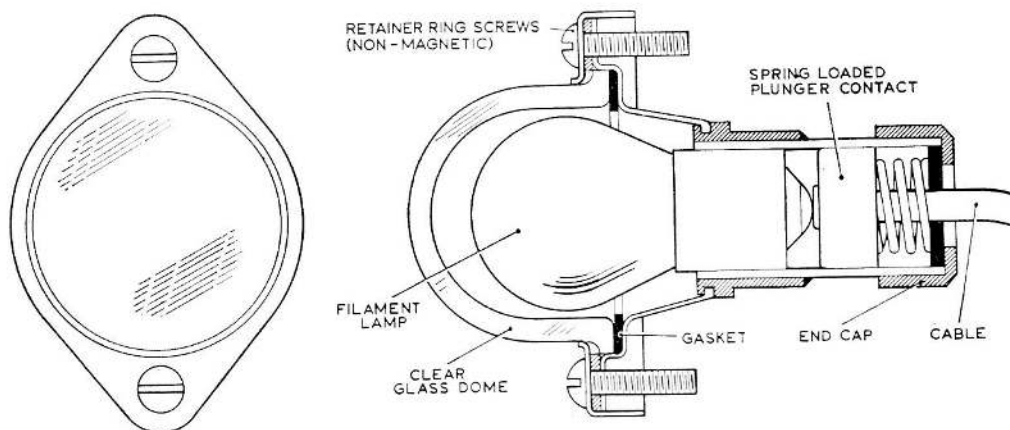

Fig. 1. Plan and sectional view
1. A plan and sectional view is given in fig. 1. The lampholder forms an integral part of the lamp body which also contains a spring loaded plunger contact to which connection to the external supply is made.